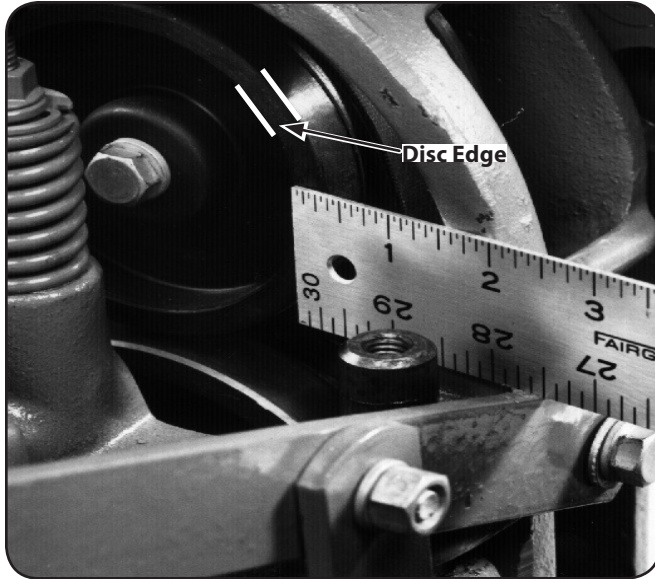

Figure 6-18
1. Measure the width of the outside edge of the disc as shown in Fig. 6-18. Replace the disc before the rubber edge wears to a thickness of  $\frac{1}{8}$ " or less. Failure to do so could cause the steel underneath the rubber to damage the transmission pulley.